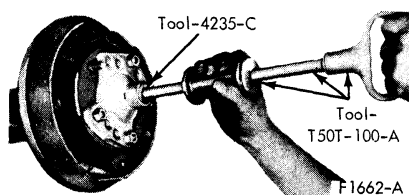

FIG. 1 Removing Axle Shaft
3. Working through the hole provided in each axle shaft flange, remove the nuts that secure the wheel bearing retainer plate. Then pull the axle shaft assembly out of the axle housing (Fig. 1). **The brake backing plate must not be dislodged. Install one nut to hold the plate in place after the axle shaft is removed.**